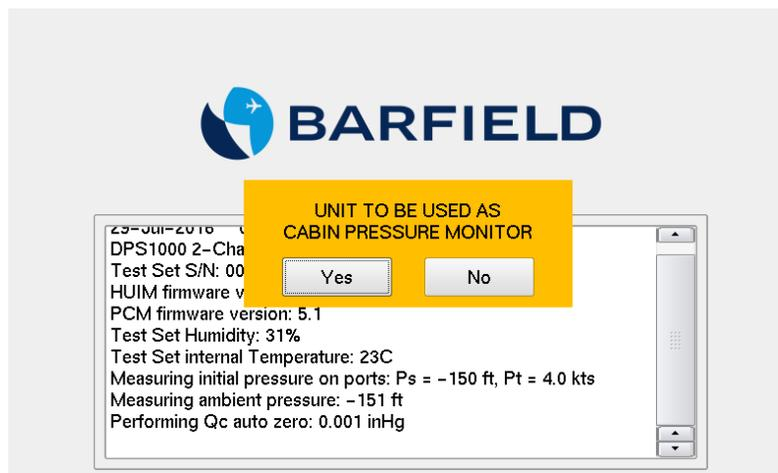

Figure E. 6 Initialization Screen
2. Then, the unit will prompt you to answer “yes” or “no” to the message below (Fig. E. 6).